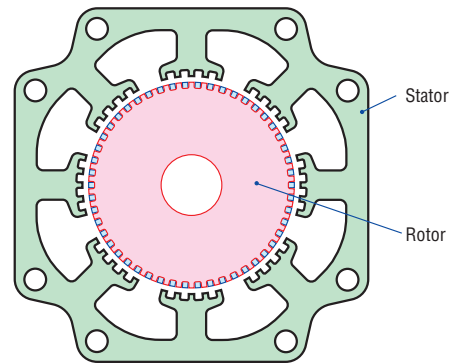

Fig. 19 Cross Section of the Stepper Motor
The stator and rotor of the stepper motor are each equipped with small teeth (See Fig. 19). When the coil on the main pole of the stator is excited, the small teeth on that main pole and the small teeth on the rotor attract each other and stop so that they are opposite each other. When torque is applied to the shaft of a standstill motor, it allows the shaft to rotate slightly. When this occurs, the relationship shown between the applied torque and the rotation angle of the shaft is called the angle-torque characteristics (θ - T characteristics)⁽¹⁾ (See Fig. 20). The gripping force due to the angle-torque characteristics of the stepper motor change according to the closing width of the finger. When using a positioning operation to grip a load using minute force, torques (1) to (3) shown in Fig. 20 are used.